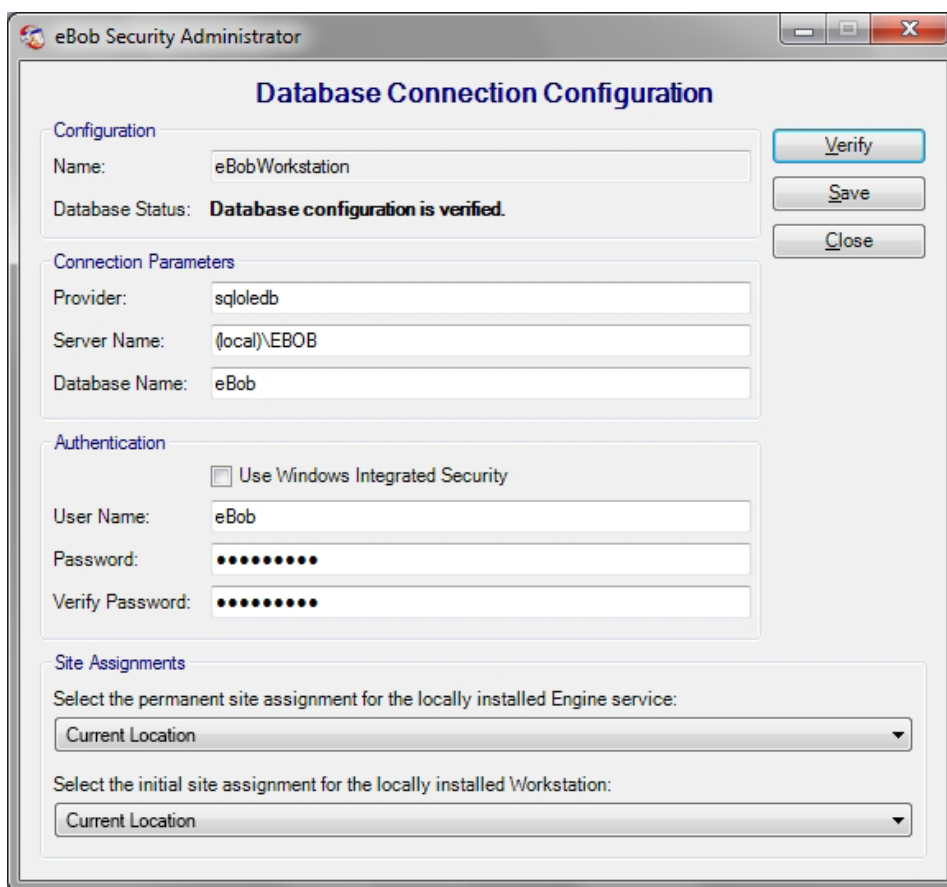

Figure 49
2. Change the default path for Server Name to the static IP address or computer name of the PC hosting the SQL database. Referring to Figure 49, the default Server Name is *(local)\Bininventory* and can be left this way only if the database is installed on this PC. Example using an IP address: *192.168.254.100\Bininventory*.